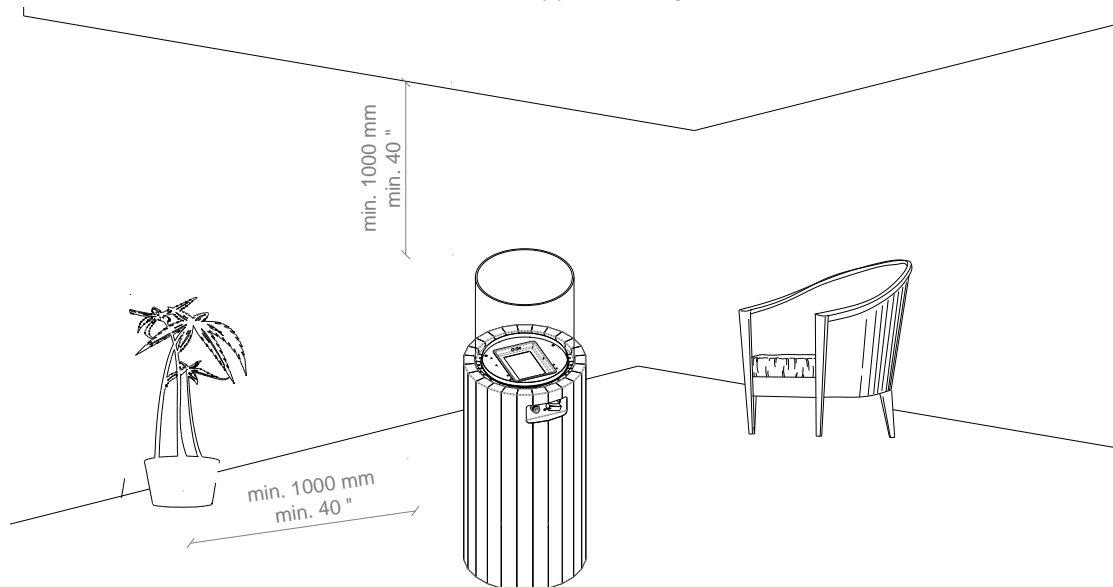

Fig. 1: Minimum distance to flammable materials
- This appliance must be kept away from flammable materials during use. Do not place any combustible materials within a distance of 1 m of Bino and 1 m over the appliance (Fig. 1).